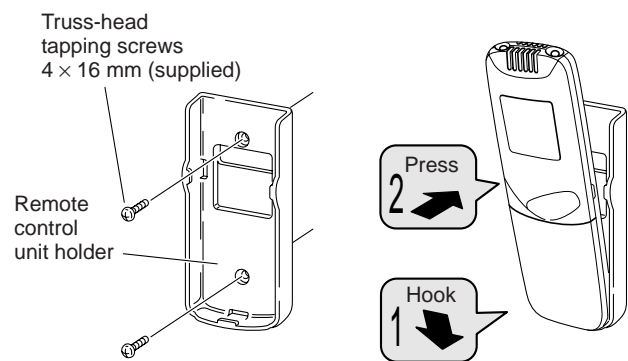

Fig. 7
- (1) Confirm the indoor unit beeps when the ON/OFF button is pressed at the wall location where the remote control unit is to be attached, then attach the holder to the wall. (Fig. 7)
- (2) When taking out the remote control unit, pull it from the holder.